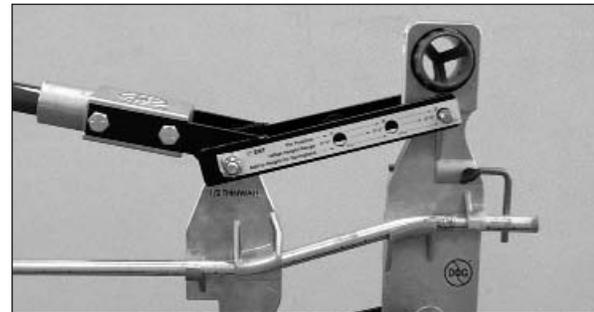

Figure 4
7. Lower the bender handle and complete the bend by pushing down until the handle stops moving. See Figure 4. Raise the handle and remove the conduit. See Figure 5.